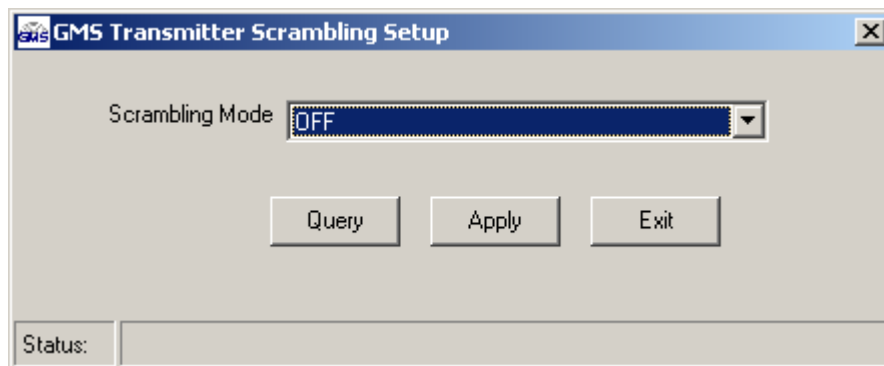

Figure 4A -Scambling Mode Setup
- **Scrambling Mode (Option)** – This pull down menu displays the following (see Figure 4A & 4B):